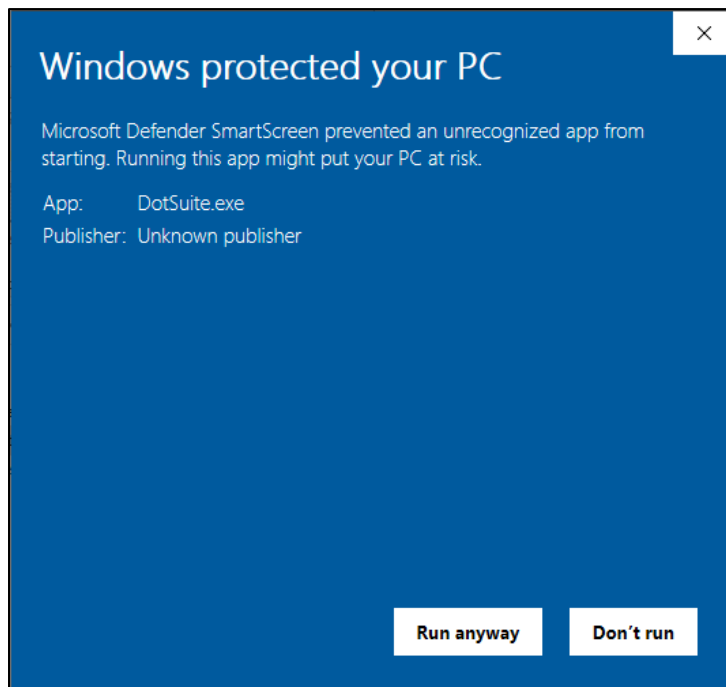

Figure 3: Windows protection – click “Run Anyway” to proceed.
- A second security warning will appear before installation. Click “Run Anyway” to proceed – Figure 3.